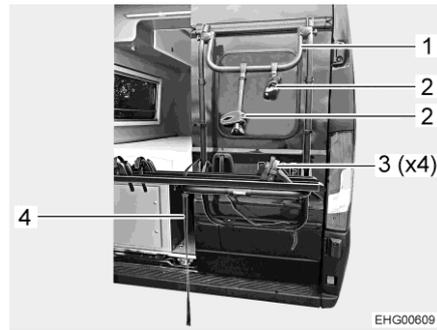

Fig. 3 Bike rack
- Open the closure strap (Fig. 3,4).
- Position the bicycle on the rail and fasten it to the retaining bracket (Fig. 3,1) with the retaining arm (Fig. 3,2).
- Secure the front wheel and rear wheel of the bicycle to the wheel rail using retaining straps (Fig. 3,3).
- Close the closure strap (Fig. 3,4).